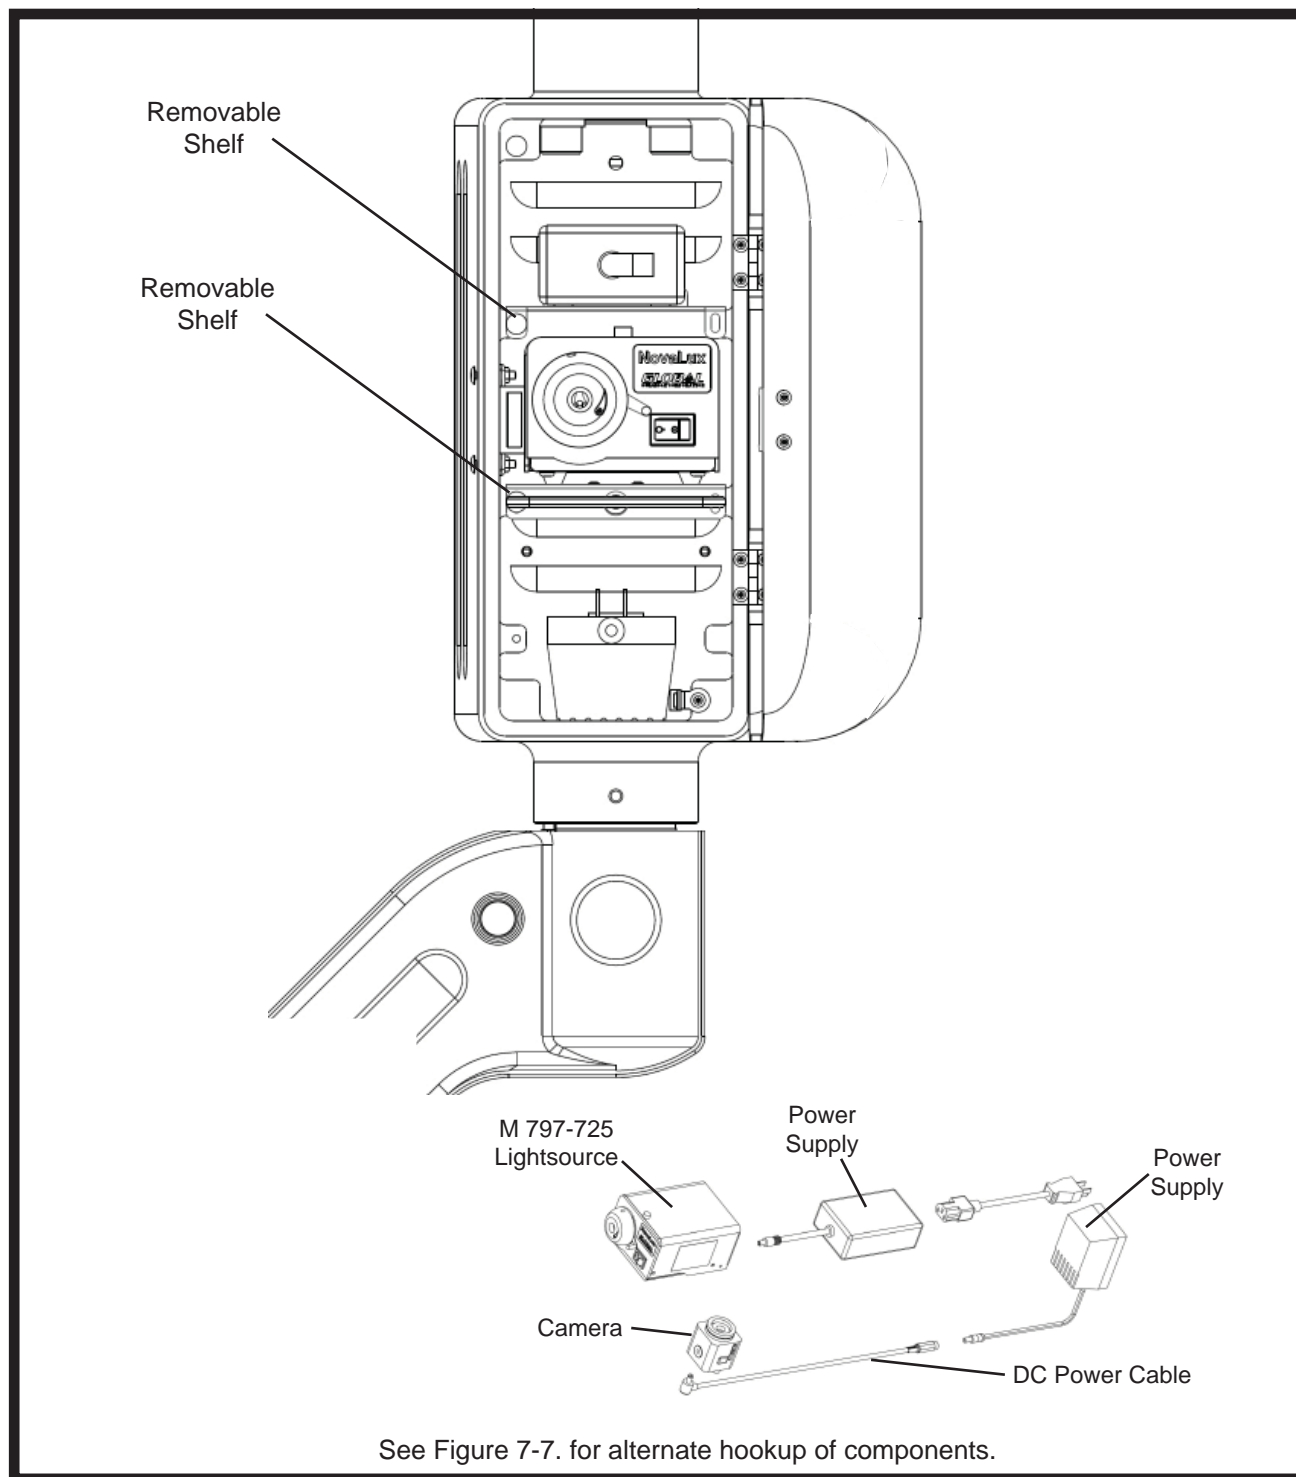

Figure 7-6. Lightsource Housing with One M 797-725 Lightsource, and Basic Video Power Supply.
The configuration used in Figure 7-6 shows the usage of one (1) M W797-725 NovaLux Lightsource, and one (1) M 517N Color Video Camera as installed on the Ceiling Mount and High Wallmount units. The schematic at the bottom shows the cable hookup.